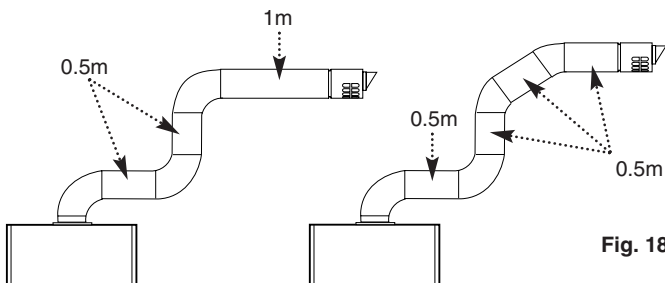

Fig. 18a
**The maximum permissible equivalent flue length is: 4 metres** (Fig. 18a).